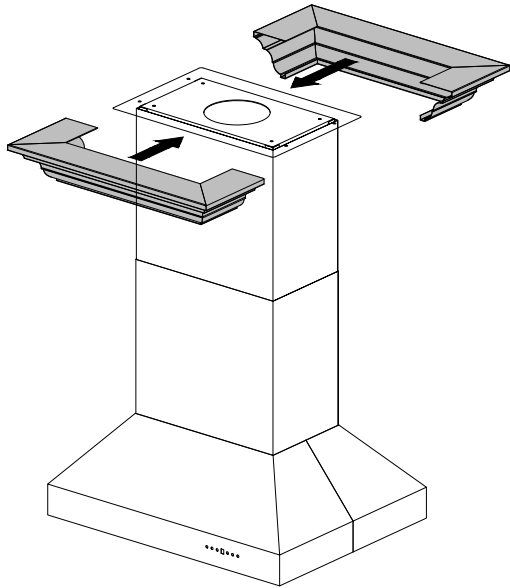

Figure 3
- Extend the chimney up to the transformer. Slide the crown molding onto the crown bracket and secure into place. The crown should cover the gap. Ensure that it installs properly and is level. *Figure 3*